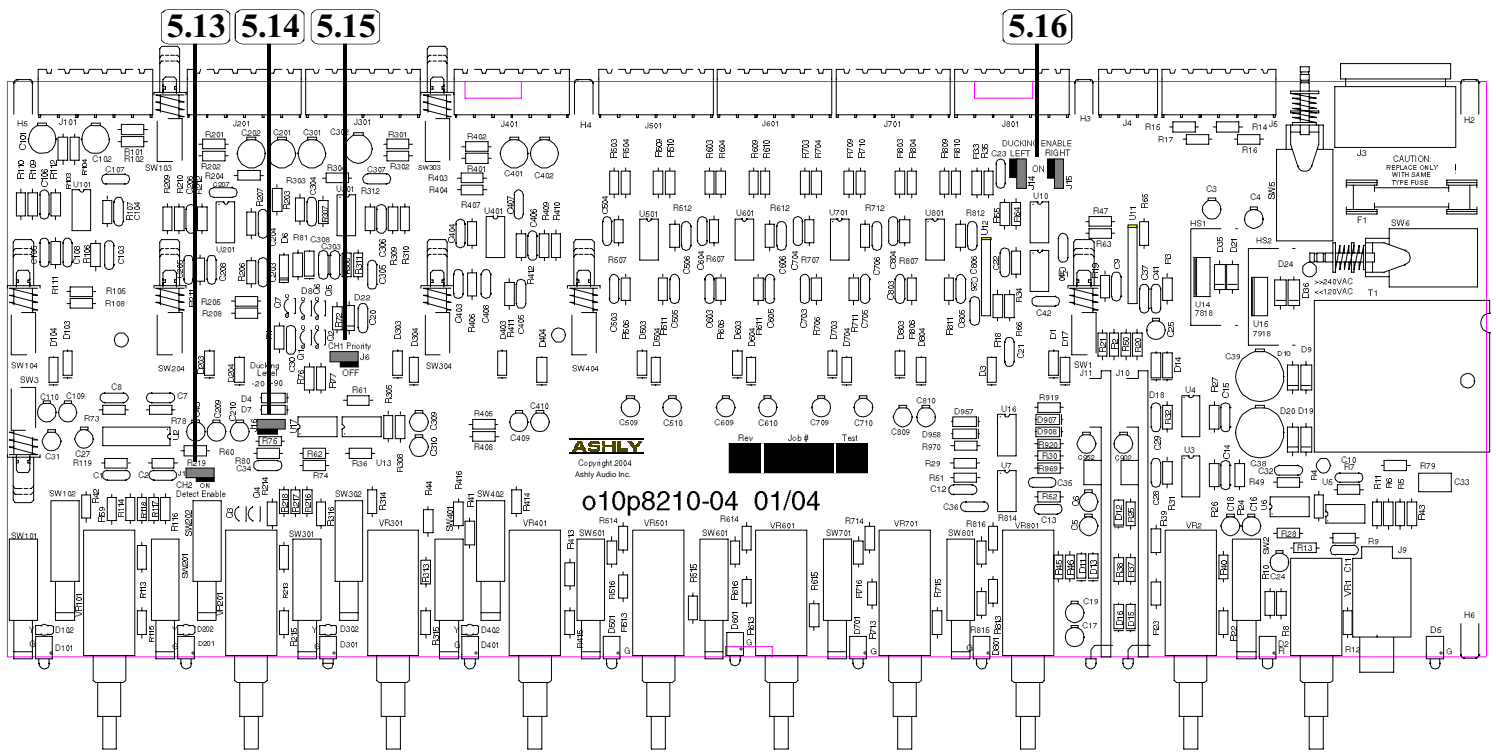

Fig. 5.2 - DLM-821 Internal Jumper Locations
* For internal jumper adjustments, remove AC cord from rear of unit and refer to a qualified service technician. (see PCB jumper locations in fig. 5.2)